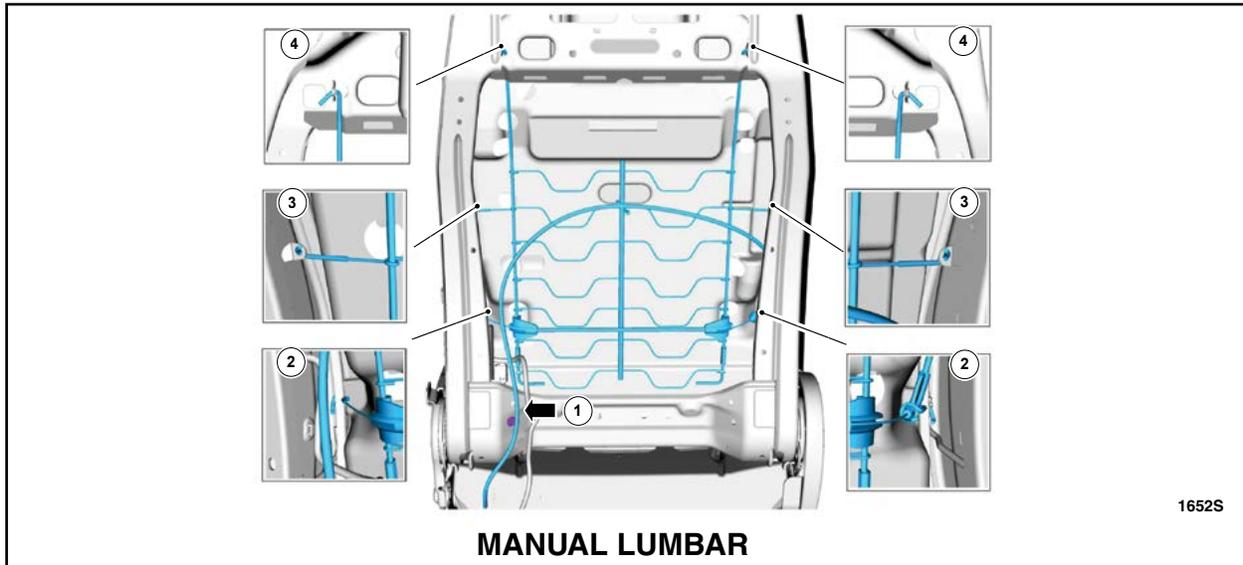

FIGURE 17
13. Remove the lumbar assembly. See Figures 17 and 18.